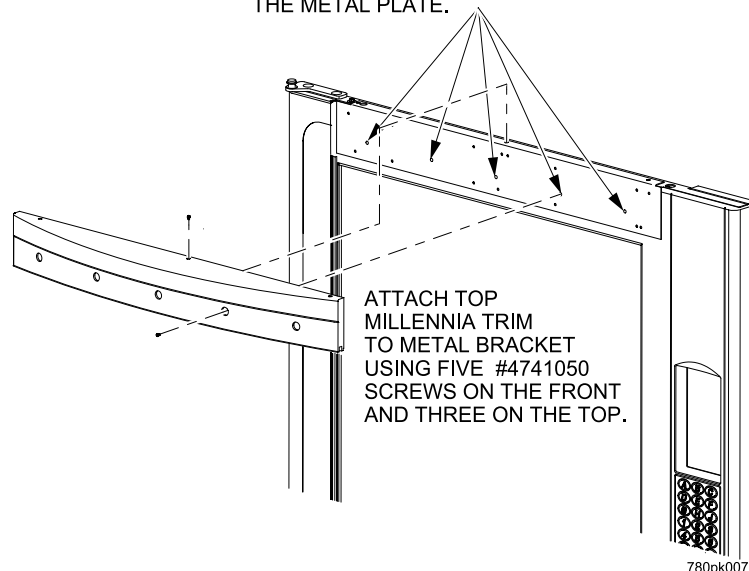

Figure 1
5. Using a pencil or marker, place a mark in each hole using the Millennia trim as a template. You should have a total of five marks in front of the door frame and three marks on top of the door frame when you are finished (See figure 1).